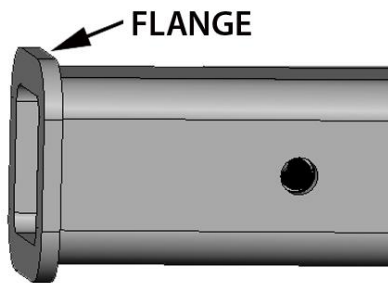

Fig. 2
2. Per Fig. 2, please note that this product requires that your hitch has a flange.